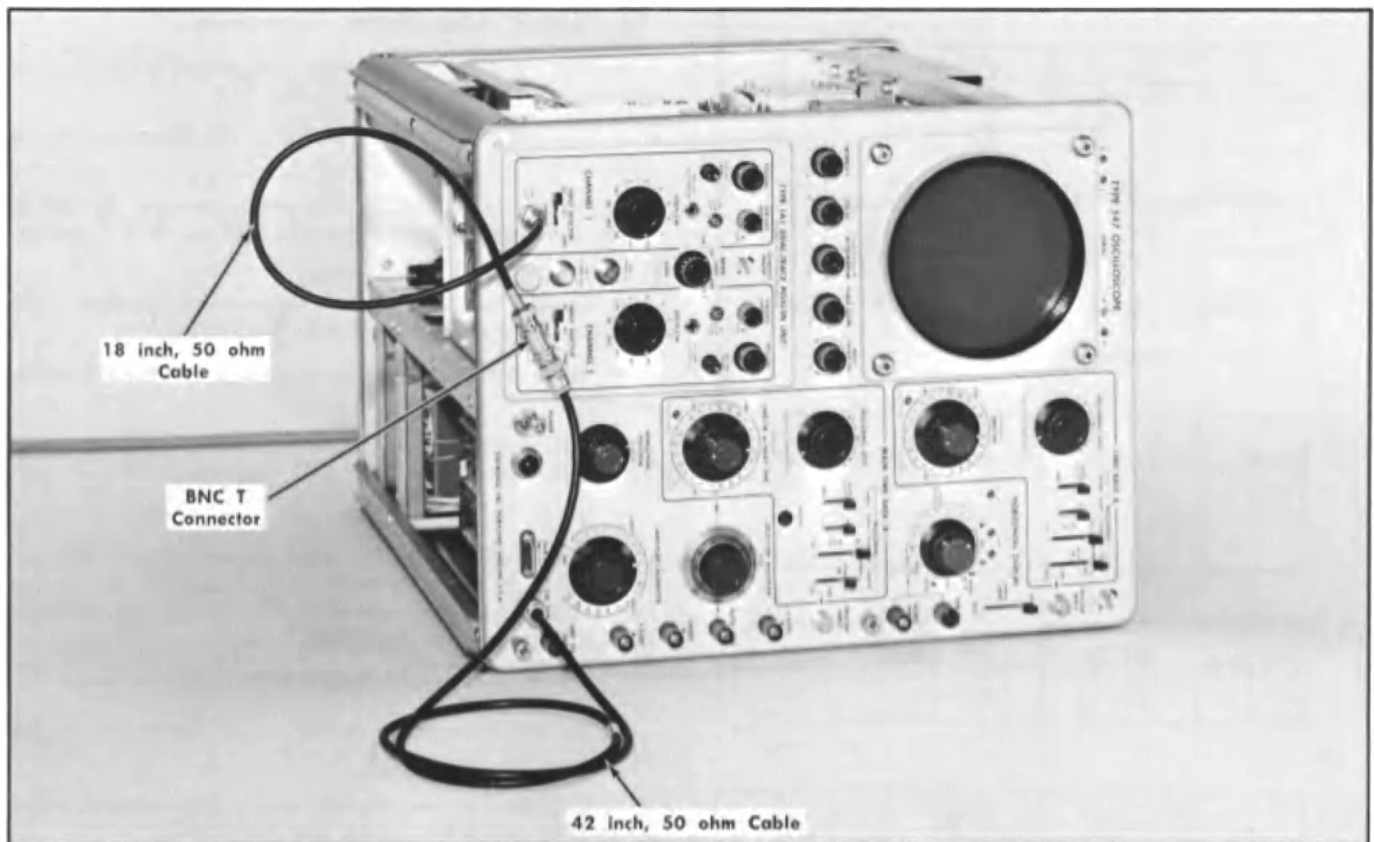

Fig. 7-17. Equipment setup for step 17.
a. Test equipment setup with connections made at completion of step 17d, is shown in Fig. 7-17.